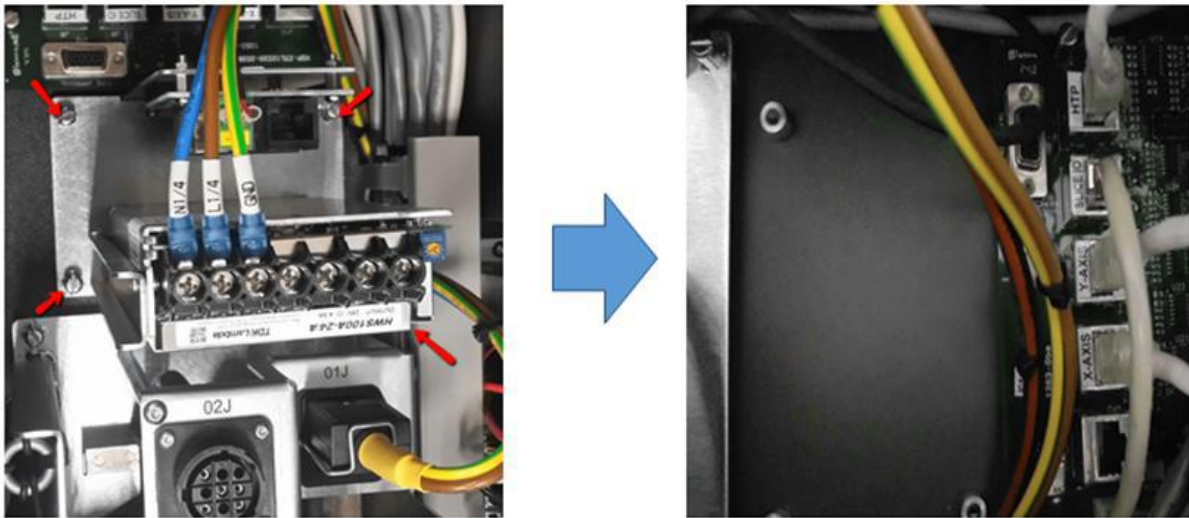

Figure 7 Holder assembly removal
8. Unscrew (x 4) and lift up MCA ADDITIONAL PARTS HOLDER ASSEMBLY (P/N, 4XAMC-A049) as shown in Figure 7.